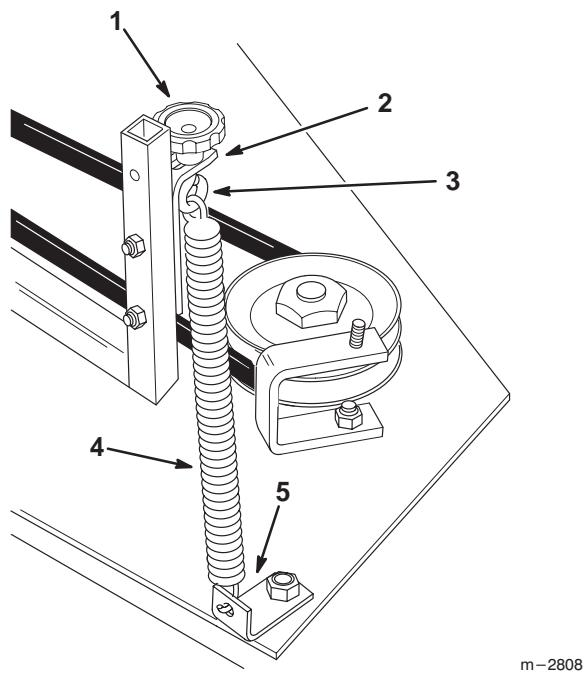

Figure 9
9. Attach the spring to the eyebolt and spring clip (Fig. 9).
10. Stretch the spring by pulling up on the knob, then install the eyebolt and knob into the slot in the support plate. Make sure the 5/16"-18 hex nut and 11/32" (9 mm) flat washer on the eyebolt are below the support plate (Fig. 9).
11. Tighten the knob securely (Fig. 9).
12. Adjust the position of the spring clip on the deck if necessary so the spring is vertical (Fig. 9).